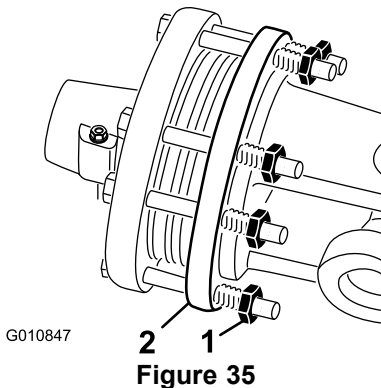

Figure 35
- At the end of the season, back off each of the clutch nuts 2 turns (Figure 35).